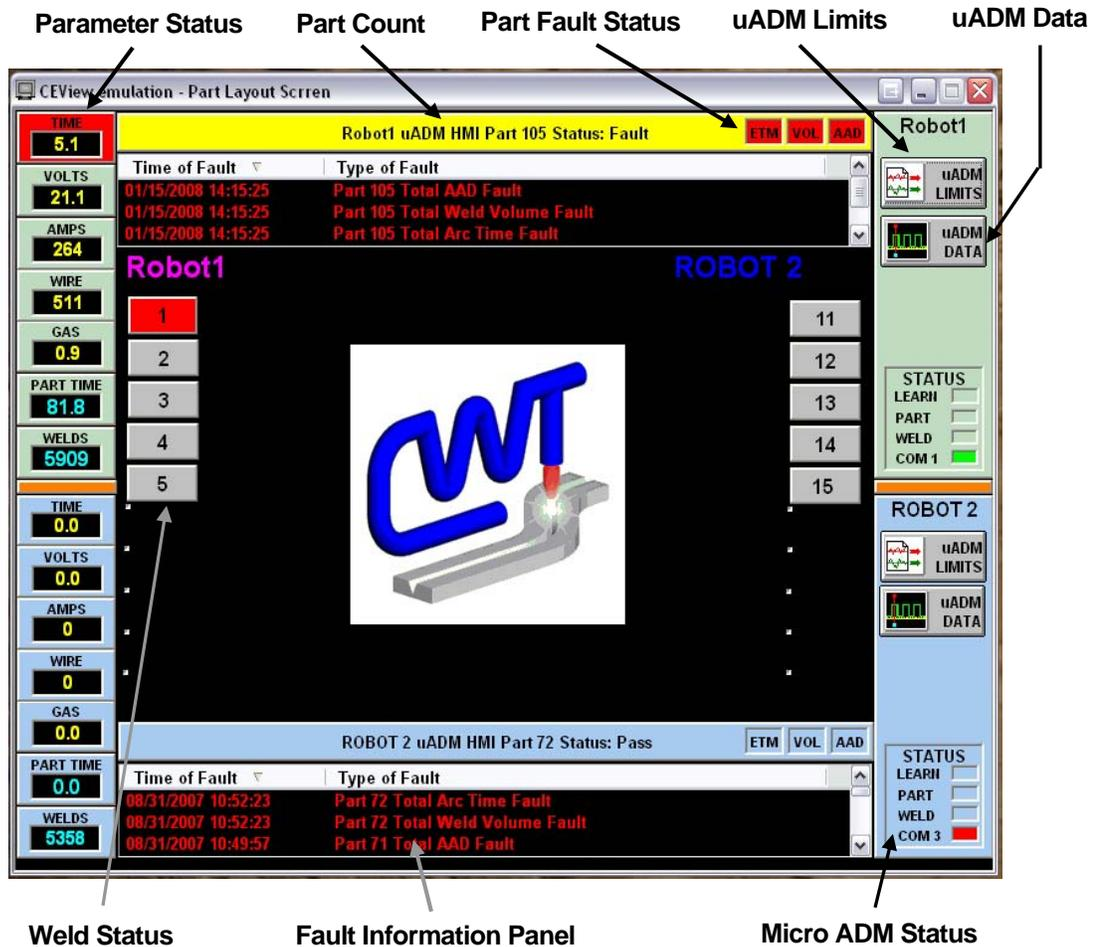

Figure 2 – Default Screen
4. Once Power Up is complete the WPM™ will Auto Load the Weld Monitor Start screen (see Figure 2 "Default Screen") (Custom Screens displaying the part with weld tags are available at additional charge upon customer request).
Once the WPM™ has been installed and power applied, the unit will display the main screen (Figure 2).
**Fault Level Box:** The user can select 3 different levels of Faults displayed in the Fault Information Panel on the Main Screen (see Figure 2).